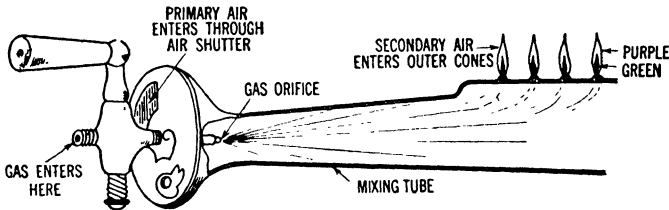

Fig. 7.7. A gas burner.
43. Gas Burners. A common type of gas burner is shown in Figure 7.7. The gas enters the burner through a small orifice at a speed of from 100 to 150 feet per second. This rapidly mov-
of gas to air is properly adjusted, the gas flame consists of two cones — an inner green one and an outer purple one. (See Fig. 7.7.)